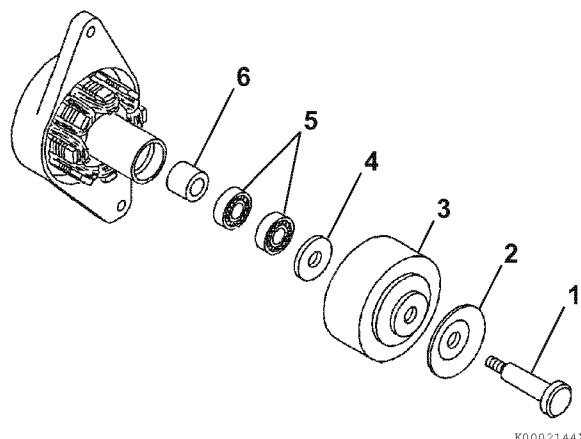

Figure 12-27
4. Reinstall the front bearings (5, **Figure 12-27**) and spacer (6, **Figure 12-27**).
5. Reinstall the flat washer (4, **Figure 12-27**), flywheel (3, **Figure 12-27**), pulley half (2, **Figure 12-27**), and through bolt (1, **Figure 12-27**).